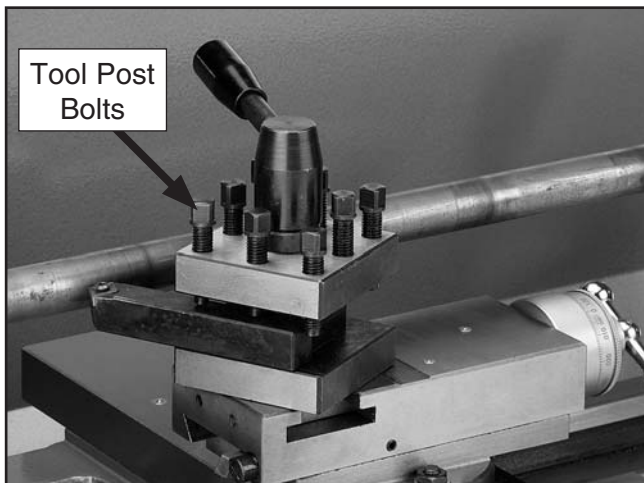

Figure 48. Tool post bolts.
3. Use a minimum of two tool post bolts to hold down the cutting tool and tighten firmly (see **Figure 48**).